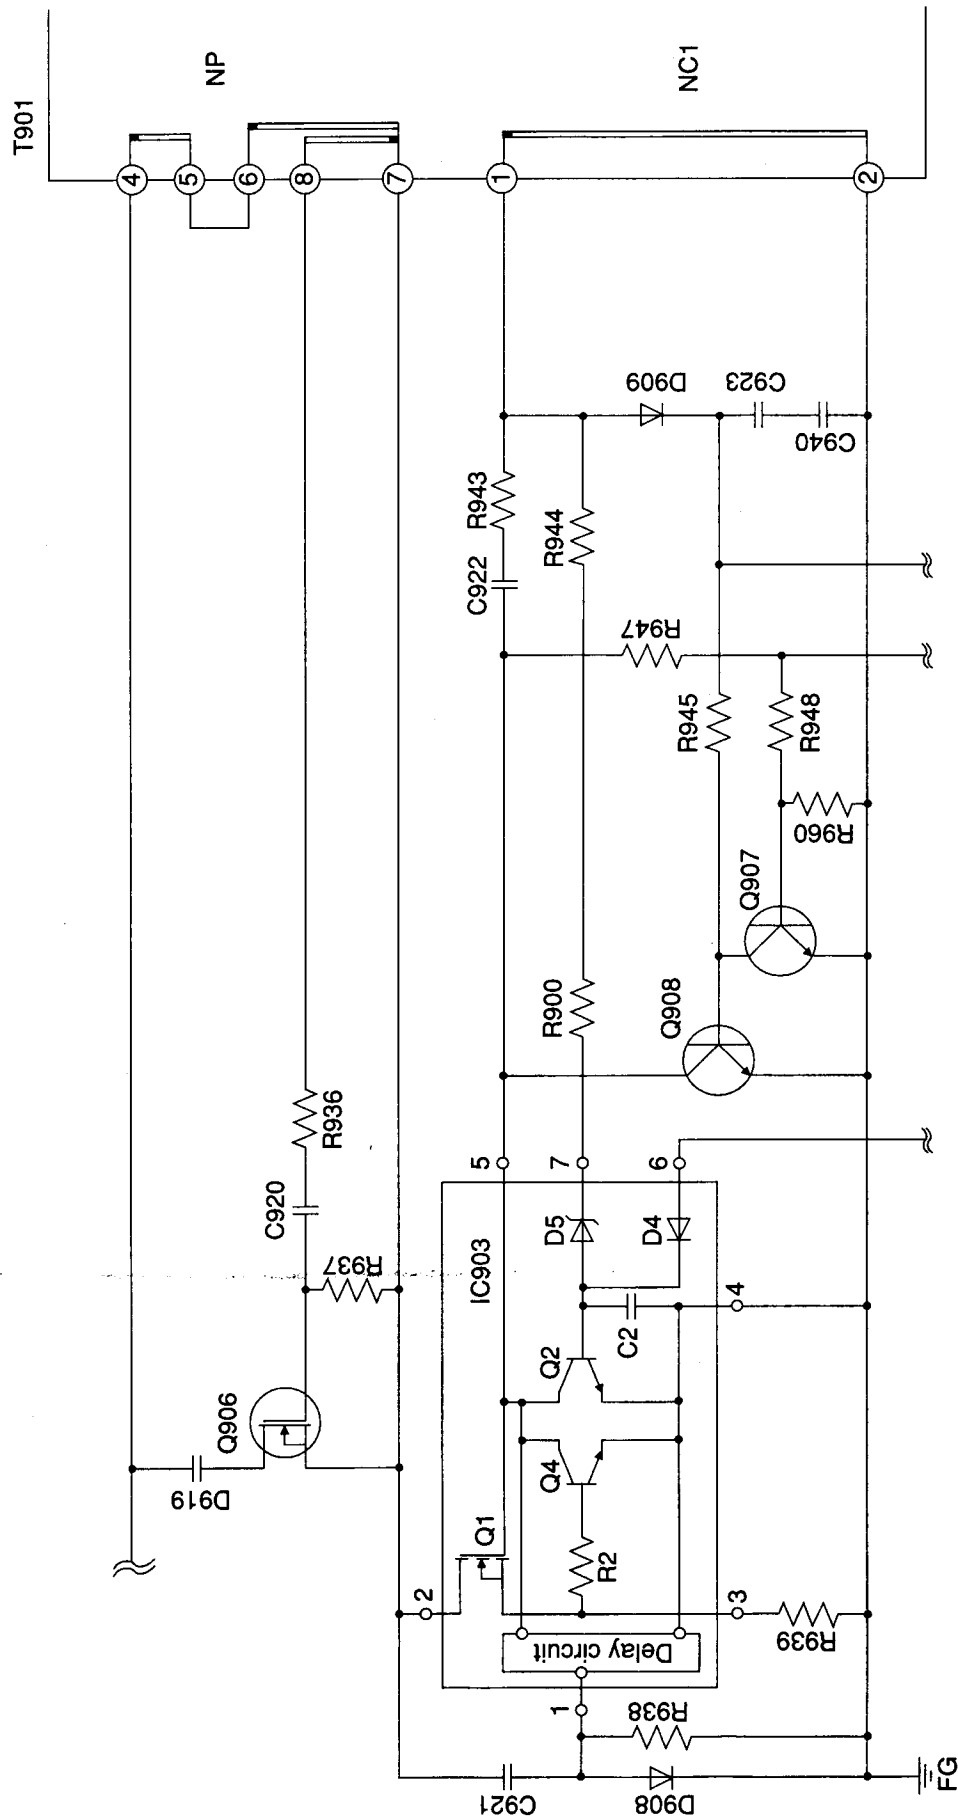

Figure 6. Main power circuit
- (1) The main power uses a pseudo-resonance operation fly-back converter type switching control ICMA5941.
- (2) In Fig. 6, when the sub-power starts and Q910 turns ON, Q908 turns OFF and IC903 starts operation. In other words, when potential is generated across the No. 5 and No. 3 pins and $V_{TH} = 3V$ (TPY) is achieved, the drain current flows to the main switching terminal Q1, and the input voltage VDC is applied on the Np coil. With this, the voltage calculated with the following expression is generated at the NC1 coil, and the voltage is supplied to the gate terminal (pin No. 5) via R943 and C922.
- (3) Immediately after the power is turned ON, the constant voltage and dropping control are not sufficiently activated, so an excessive current could flow to the Q1 drain. As the Q1 drain current overcurrent protection, the R939 is connected across the source terminal (pin No. 3) and ground terminal (pin No. 4). When the voltage drops, Q4 turns On, the gate voltage VGS drops below V_{TH} , and Q1 turns OFF.
- (4) From the NC1 coil, voltage is supplied to the gate terminal and C2 is charged via D5. When the C2 potential reaches approx. 1V, Q2 turns ON and the gate voltage VGS drops below V_{TH} . Thus, Q1 turns OFF. In other words, the Q1 max. ON time is the value determined by the NC1 coil voltage VC_{NC1} , R900, R944, D5 and C2.
- (5) When Q1 turns OFF, the energy accumulated in the transformer T901 is output from the NS coil to the secondary side via D961. At the same time, the voltage generated in the reverse direction passes through D5, R900 and R944 to discharge C2, and charges the NC1 coil with a minus potential. When the discharge of the transformer energy ends, D961 turns OFF, but a voltage is generated in the NC1 due to the fly-back of the slight residual energy. This turns Q1 ON again, and continues the switching operation.
- (6) Constant voltage control